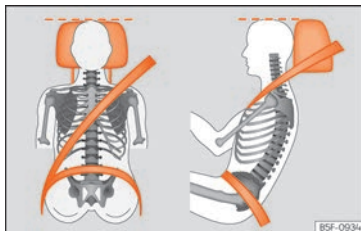

Fig. 87 Correctly adjusted head restraint as viewed from the front and the side.
- Adjust the head restraint so that its upper edge is, as far as possible, at the same level as the top of your head, or at the very least, at eye level » **Fig. 87.**